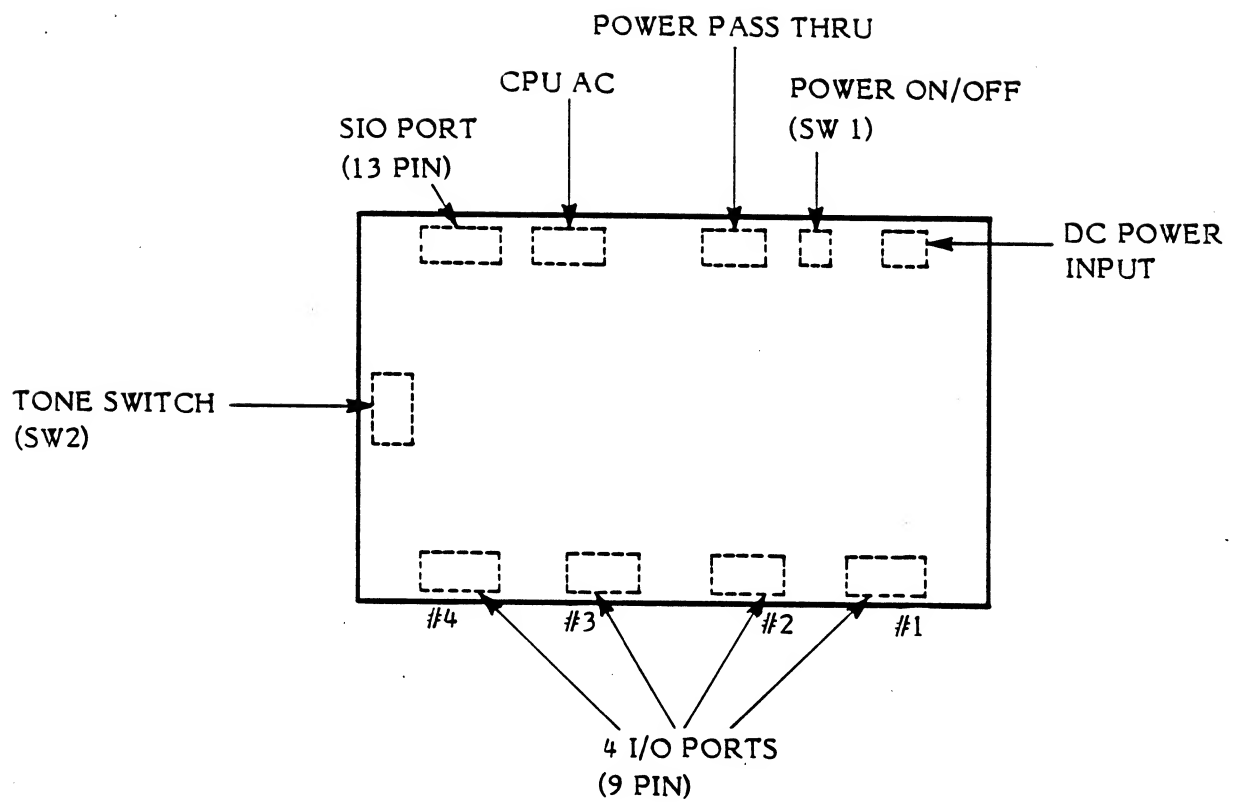

Figure 2-1. Super SALT Extended Hardware
- o super SALT Extended Hardware (FA100332) (See Figure 2-1)
If voltage levels, SIO, 2-way clocks, external audio or controller ports are to be tested, connect the super SALT Extended Hardware (Refer to Figure 2-1). Perform the following functions exactly as described below to connect the super SALT Extended Hardware (SSEH) (FD100332).